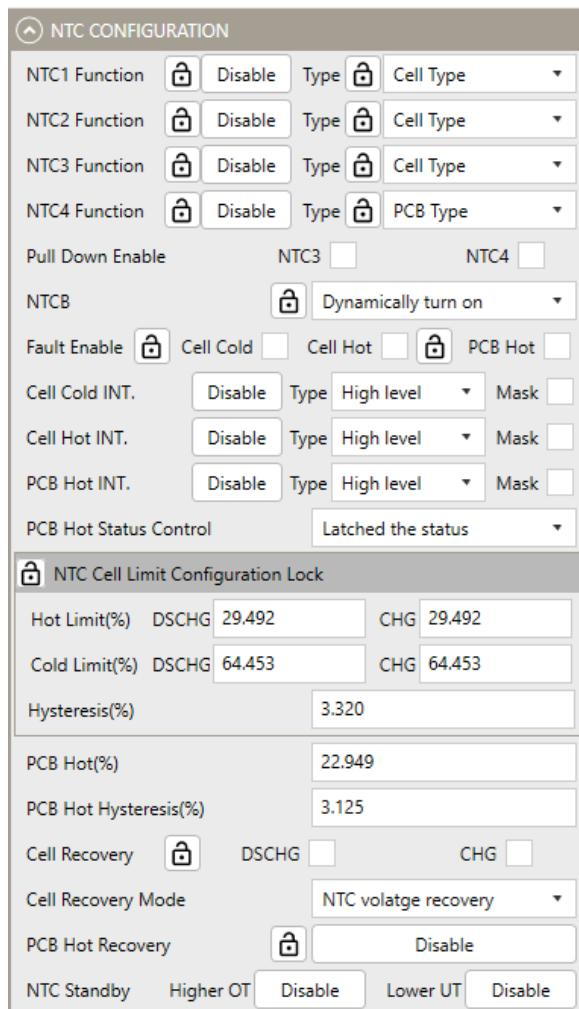

Figure 21: NTC Configuration
13. Figure 21 shows the NTC Configuration settings in the GUI.